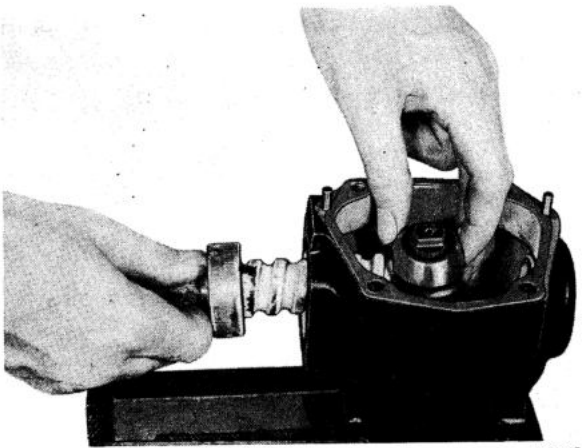

Fig. 6-50. Removing the steering cam
5. Pull out the steering cam with bearing and screw off the ball nut at the same time, see Fig. 6-50.